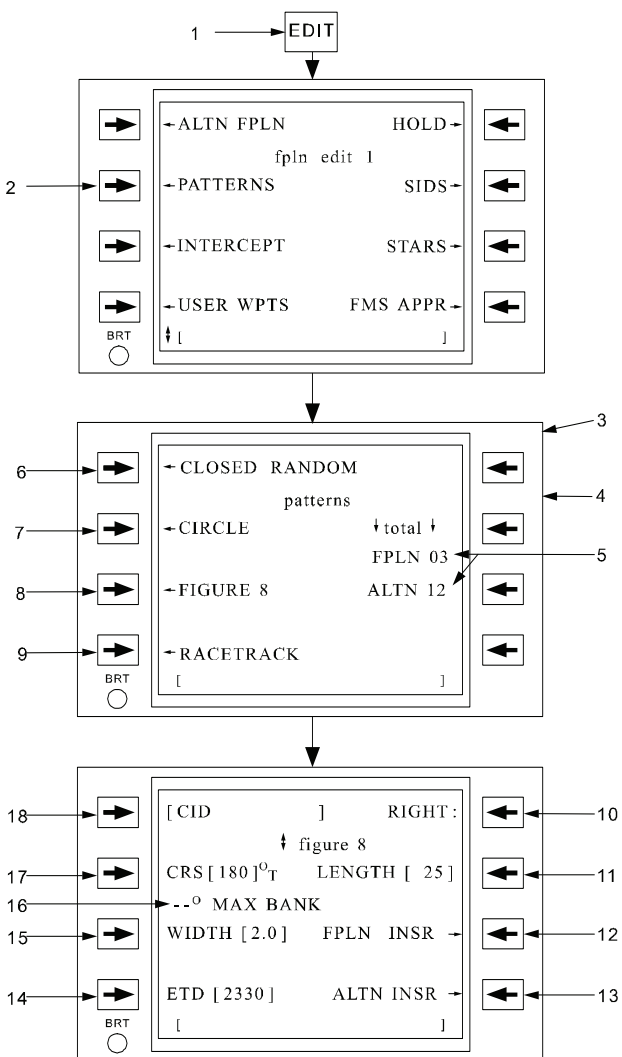

Figure 3B-92. MFP Page Access from the Patterns Page
(3) Circle patterns require all parameters defined above except for pattern length. MFP geometry definitions are shown in Figure 3B-93.